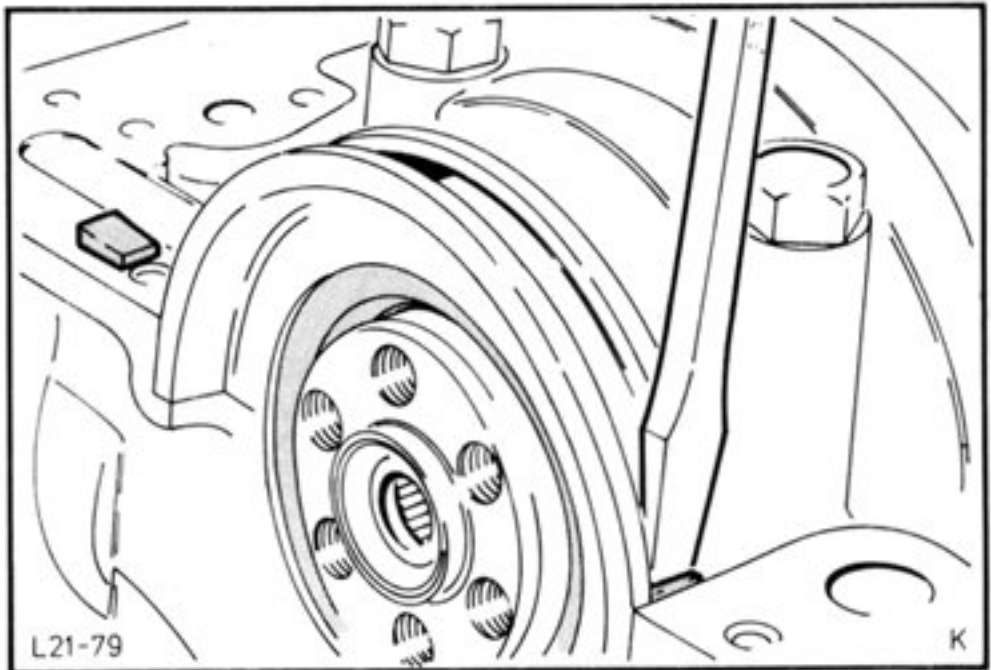

Fig.54. Fit rear main bearing dowel bushes.
40. Coat rear main bearing cap dowel bushes with sealing compound (Part No.A 70SX-19554-BA and drive in with a blunt screwdriver, Fig.54. (The rounded face of the dowel bush has a red mark and must be fitted pointing towards the bearing cap).